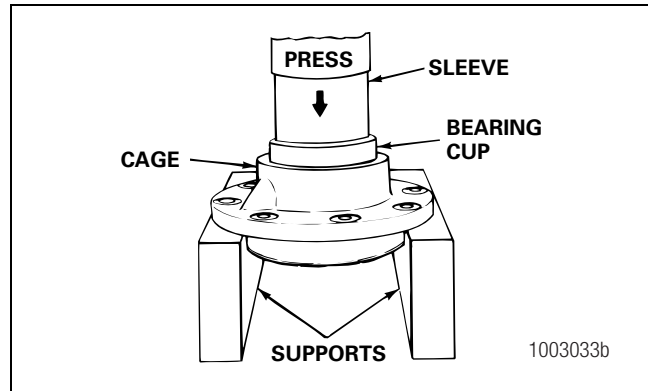

Figure 5.1
1. Place the bearing cage in a press. Figure 5.1.
3. Press the bearing cup into the bore of the bearing cage until the cup is flat against the bottom of the bore. Use a sleeve of the correct size to install the bearing cup. Use the same procedure for both bearing cups. Figure 5.1.